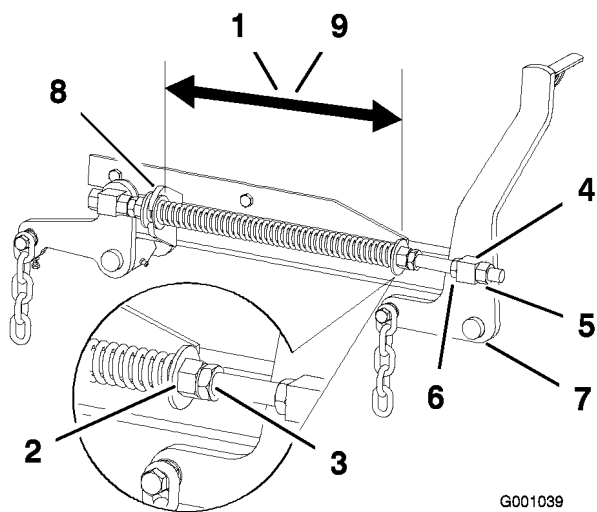

Figure 72
2. Check the distance between the two large washers, it needs to be 10-1/2 inches (26.7 cm) (Figure 72).
3. Adjust this distance, by loosening the spring jam nut and turning the nut in front of each spring (Figure 72). Turning the nut clockwise will shorten the spring; counter-clockwise will lengthen the spring.
4. Lock the nut into position by tightening the spring jam nut (Figure 72).